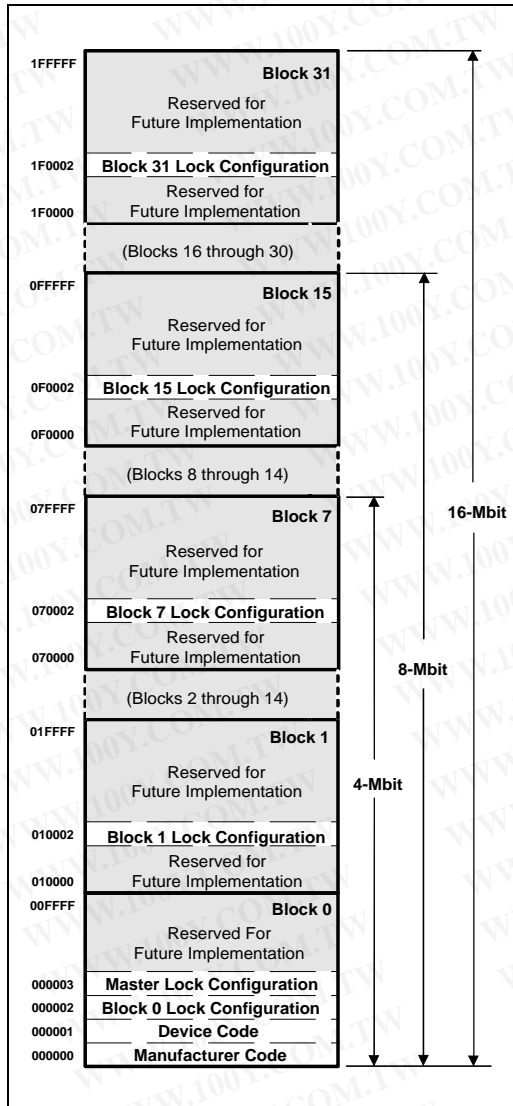

Figure 5. Device Identifier Code Memory Map
The read identifier codes operation outputs the manufacturer code, device code, block lock configuration codes for each block, and master lock configuration code (see Figure 5). Using the manufacturer and device codes, the system software can automatically match the device with its proper algorithms. The block lock and master lock configuration codes identify locked and unlocked blocks and master lock-bit setting.
| Read Identifier Codes | | V _{IH} or V _{VHH} | V _{IL} | V _{IL} | V _{IH} | See Figure 5 | X | Note 5 | V _{OH} |
IA = Identifier Code Address: see Figure 5.
The identifier code operation is initiated by writing the Read Identifier Codes command. Following the command write, read cycles from addresses shown in Figure 5 retrieve the manufacturer, device, block lock configuration and master lock configuration codes (see Table 4 for identifier code values). To terminate the operation, write another valid command. Like the Read Array command, the Read Identifier Codes command functions independently of the V_{PP} voltage and RP# can be V_{IH} or V_{HH}. Following the Read Identifier Codes command, the subsequent information can be read.
1. X selects the specific block lock configuration code to be read. See Figure 5 for the device identifier code memory map.